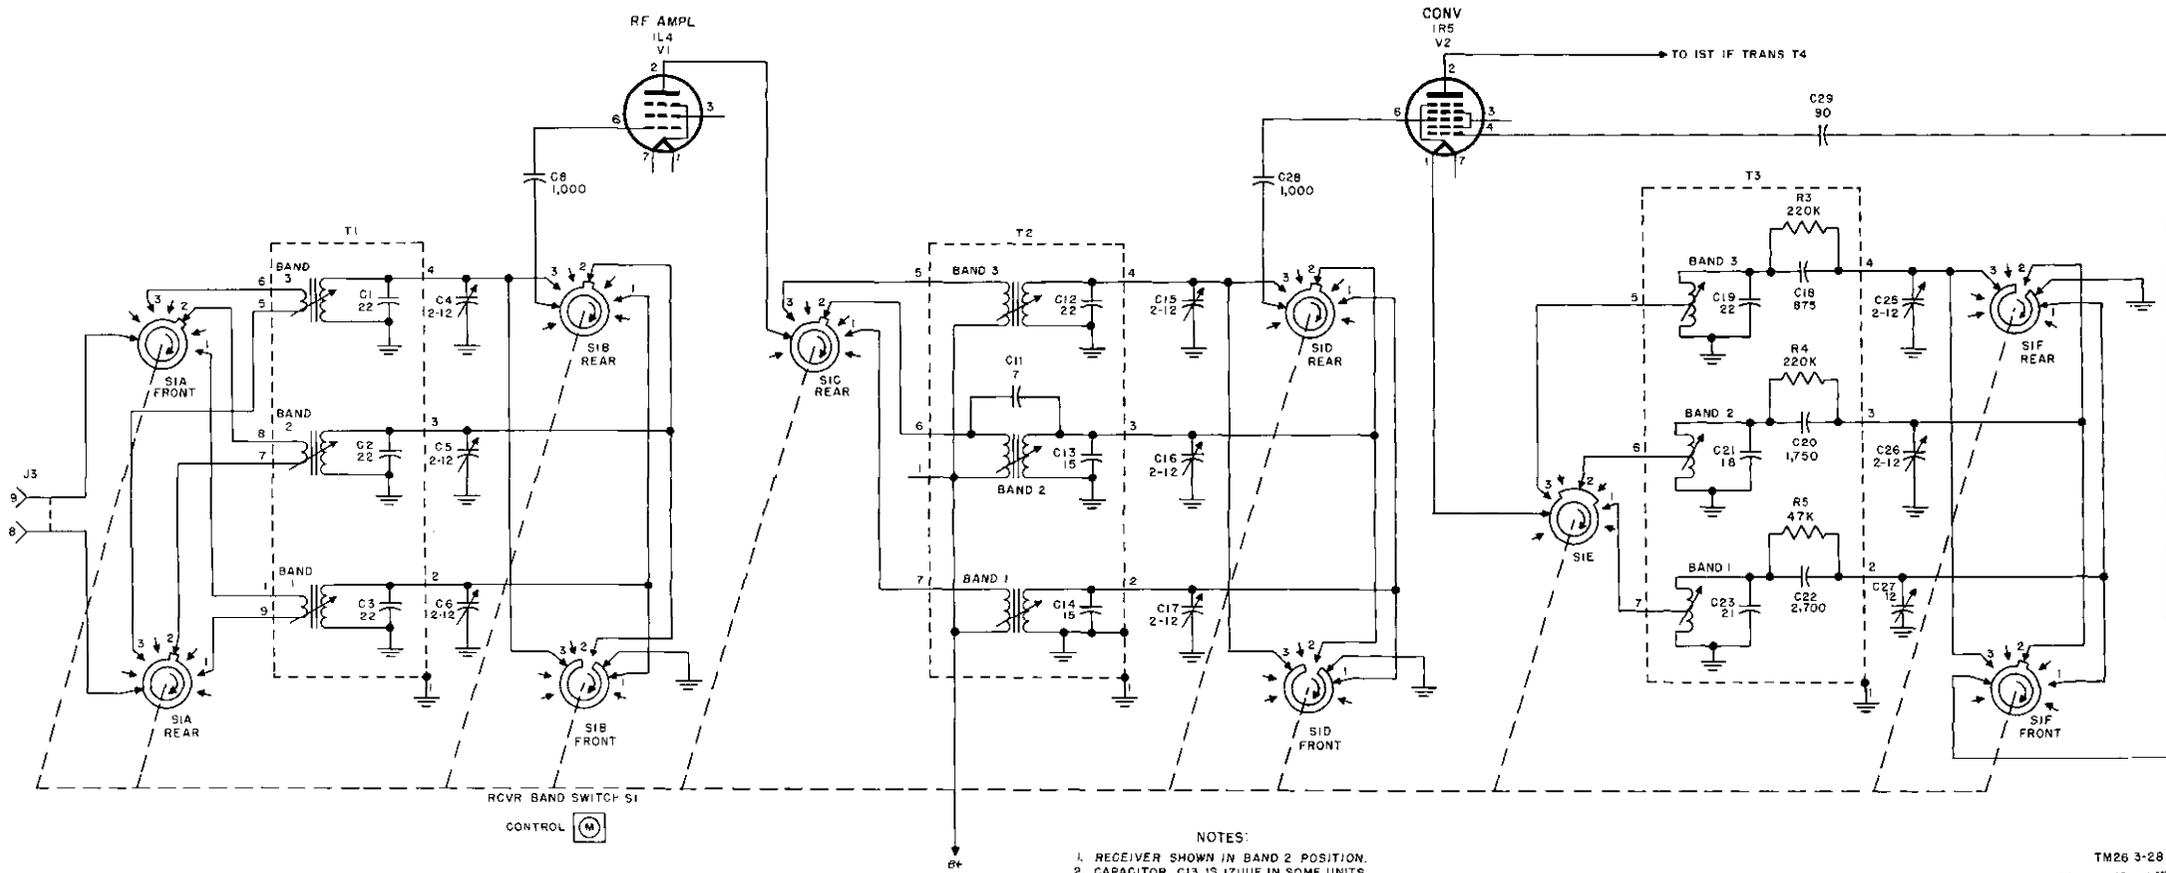

Figure 59. Band changing circuit, simplified schematic diagram
c. The amplified output of V1 is applied across second rf transformer T2, the secondary of which is brought to resonance by section C7B of the ganged TUNING capacitor. Considering band 1 only, capacitor C7B works in conjunction with trimmer C17 and fixed capacitor C14. The signal leaves T2 and is coupled by capacitor C28 to the control grid of converter tube V2. On band 2, capacitor C11 (fig. 59) improves the coupling at the higher frequencies.
b. The resonant circuit in the oscillator portion of V2 is formed by one coil of T3, which is selected by band changing switch section S1F (fig. 59). Band 1 is tuned to resonance by variable TUNING capacitor C7C, control (N), adjustable trimmer C27, and capacitor C23. Capacitor C23 is used as a frequency corrector for temperature changes. When the temperature increases, the coil inductance increases, thus
89. Band Changing Circuit (fig. 59)
d. The filament of V2 is connected to hf oscillator coil by band switch section S1E, control ⓓ (fig. 59).